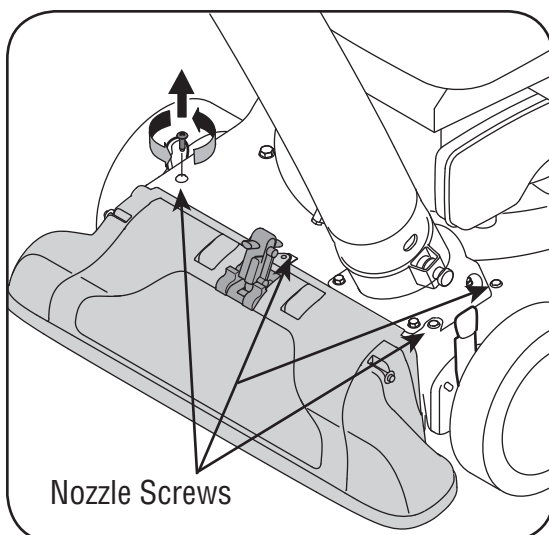

Figure 21
6. Remove the four screws on the upper housing that secure the nozzle cover. See Figure 21.